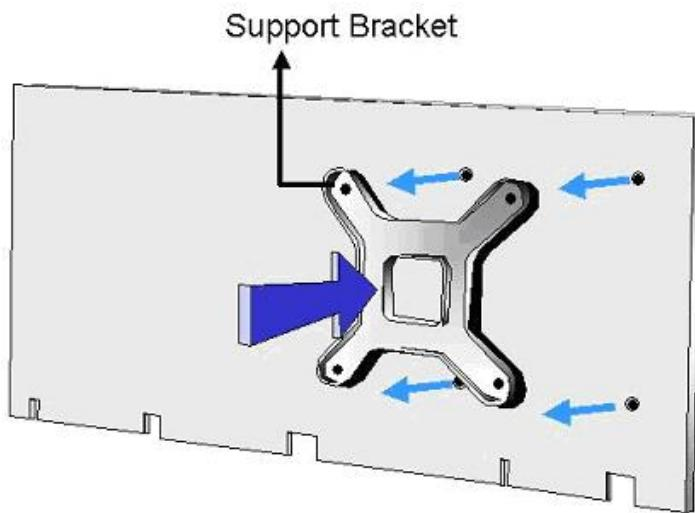

Figure 5-4: Cooling Kit Support Bracket
Step 10: Secure the cooling kit. From the solder side of the PCB, align the support bracket to the screw threads on heat sink that were inserted through the PCB holes. (See **Figure 5-4**)